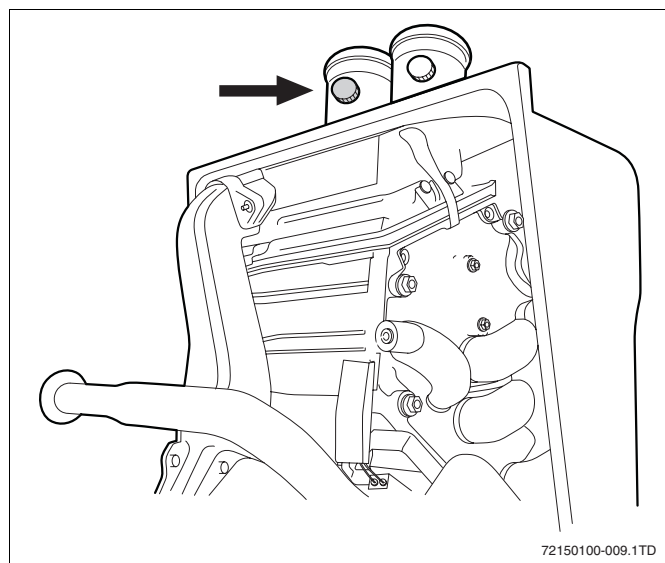

Fig. 10 Flue gas sampling point
3.5 Measuring the carbon monoxide content (CO)
- Measure the carbon monoxide content on the flue gas sampling point (→ fig. 10).